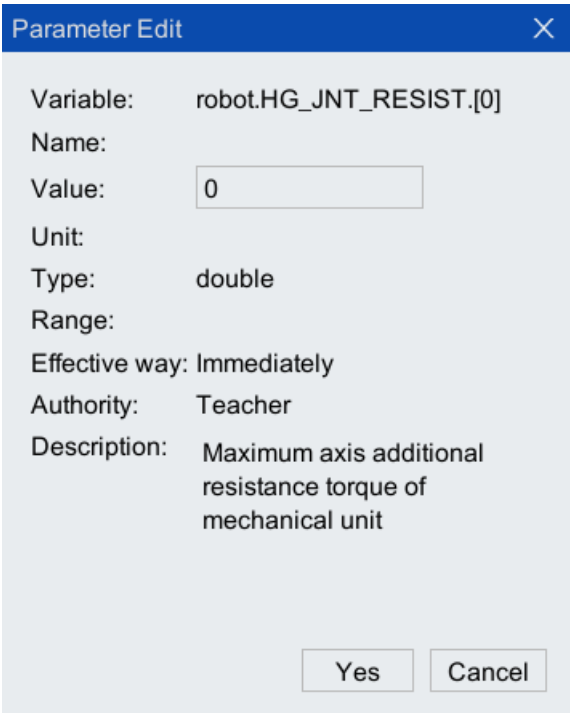

Figure 5-9 Parameter editing interface
Step4. In the pop-up [Parameter Edit] interface (as shown in Figure 5-9), configure the [Value]. Parameter description is shown in Table 5-3.